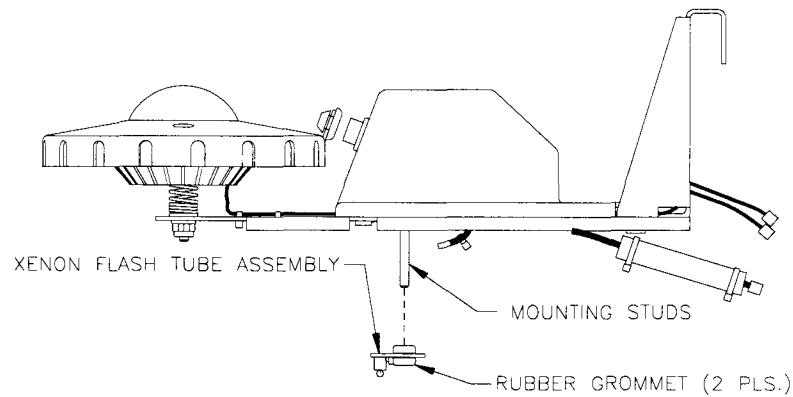

FIGURE 14
4. Remove the Xenon Flash Tube Assembly (p/n A-20718) from the mounting studs, being careful not to pull the Rubber Grommets (p/n 23-6420) out of the Xenon Flash Tube Assembly. (See Fig.14)